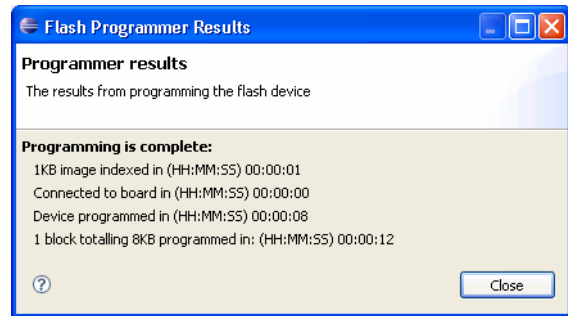

Figure 11 The Flash Programmer Results dialog
10. The **Flash Programmer Results** dialog opens after programming is complete (see Figure 11 on page 18), indicating success or failure and the time taken for various operations.